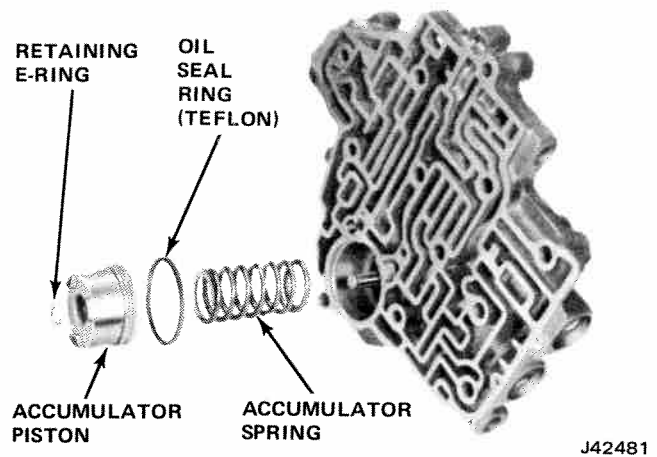

Fig. 7-51 Accumulator Piston and Spring
(4) Remove accumulator piston and spring from valve assembly (fig. 7-51).
(1) Install front accumulator spring and piston into valve body (fig. 7-51).
(2) Compress spring and piston, install Special Tool